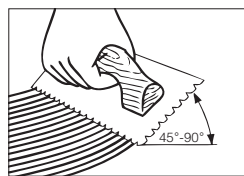

Figure 9
- Hold trowel at a minimum 45° angle (Figure 9) firmly against the subfloor to obtain a 40–60 ft². (4–5.5 m²) per gallon spread rate. The trowel will leave ridges of adhesive and very little adhesive between the ridges. This will allow you to still see the chalk lines between the ridges and provide the recommended spread rate.